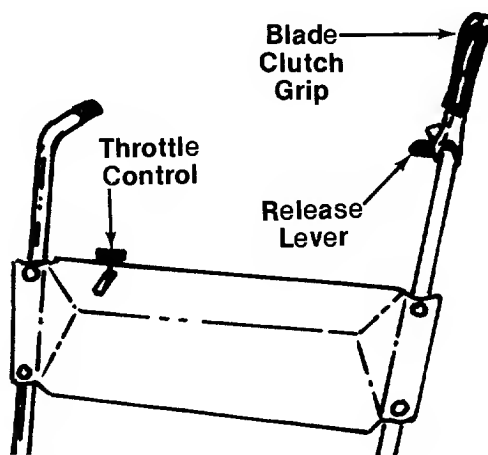

FIGURE 9.
The throttle control is located on the right hand side of handle panel. It controls engine speed. See figure 9.
The blade clutch grip is located on the left handle. Push the release lever to free the blade clutch grip, then squeeze the clutch grip against the handle to engage the blade. Release the grip to stop the blade from turning. See figure 9.
1. Be certain the clutch grip is in the disengaged position (released). See figure 9.
2. Move the throttle control to the "CHOKE" position. See figure 9.